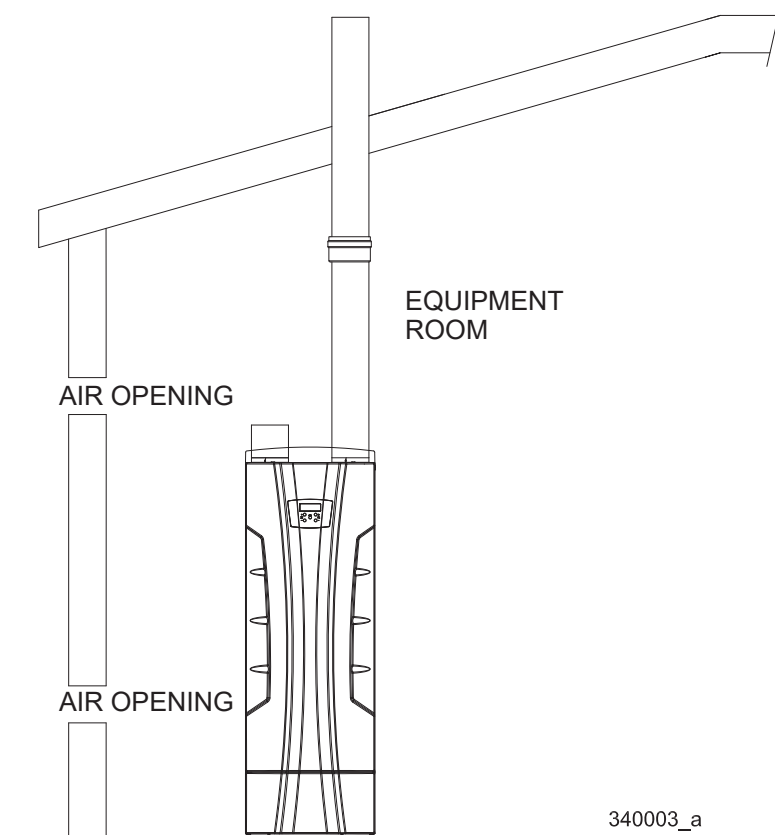

Figure 5-1 - Combustion Air direct from outside
1.- If air is taken directly from outside the building with no duct, provide two permanent openings to the equipment room (see Fig. 5-1);